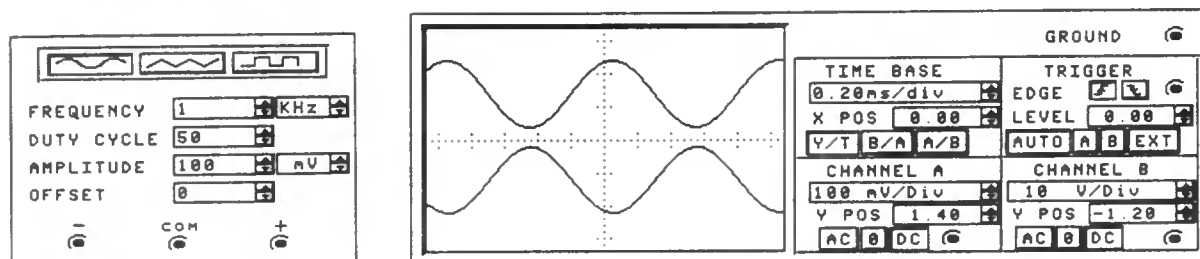

Fig. 5.25 Waveform generator and oscilloscope settings for Assignment 5.2.
2. Switch on the power to your circuit and adjust the function generator and oscilloscope controls as shown in Fig. 5.25.